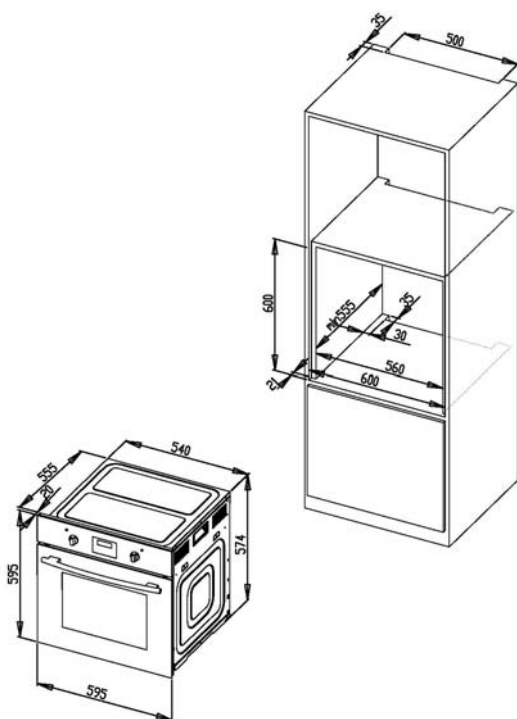

FIG.4
1. The oven has to be installed as indicated in Fig.4, Whether under a hob or in a column.
2. On inserting the oven in a column, it is essential in order to ensure there is enough ventilation, to remove the rear panel of the furniture and have an opening of at least 85 - 90 mm as indicated in Fig.4.